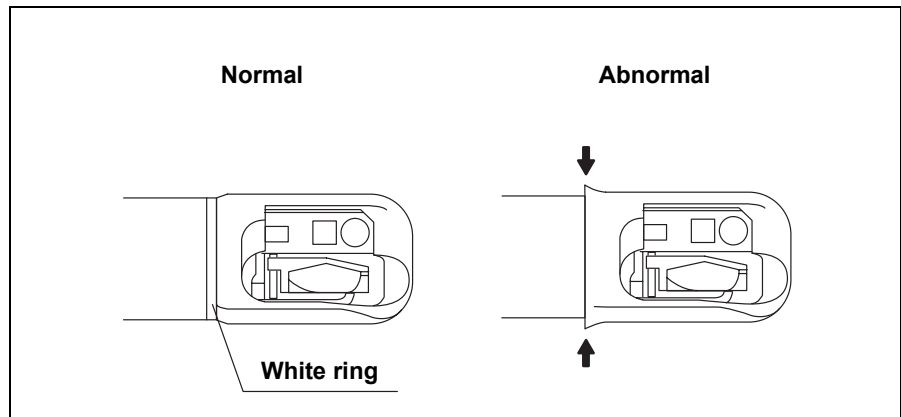
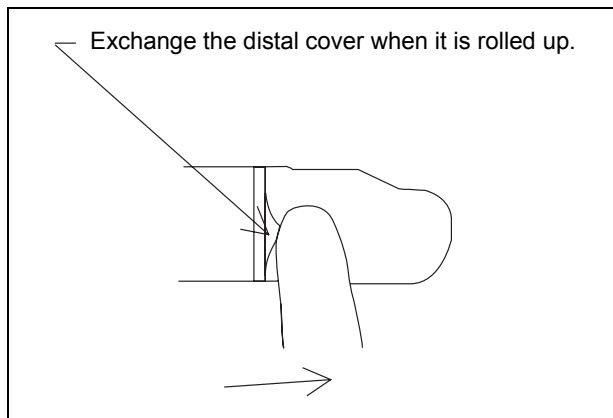

Figure 3.22
Figure 3.23
9. Confirm that the bottom end of the distal cover does not spread as shown by the arrows in Figure 3.22, and that the white ring of the distal end is not covered by the distal cover as shown in Figure 3.22. Stroke the distal cover with your fingers and pay attention that the distal cover is not put over the distal end as shown in Figure 3.23. Otherwise, the distal cover may be damaged. When Continuing the examination with the condition like mentioning above is confirmed, the distal cover may slip off the distal end during the examination. Replace the distal cover with a new one.